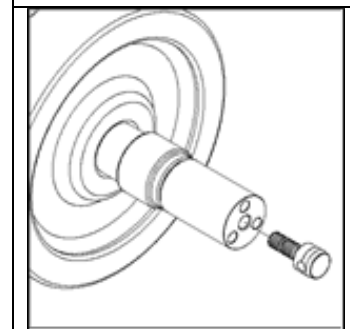

Figure 19 – Installing Adaptor
- 5.3.2 Thread the Installing Adaptor into the Guide Tube (Figure 19).